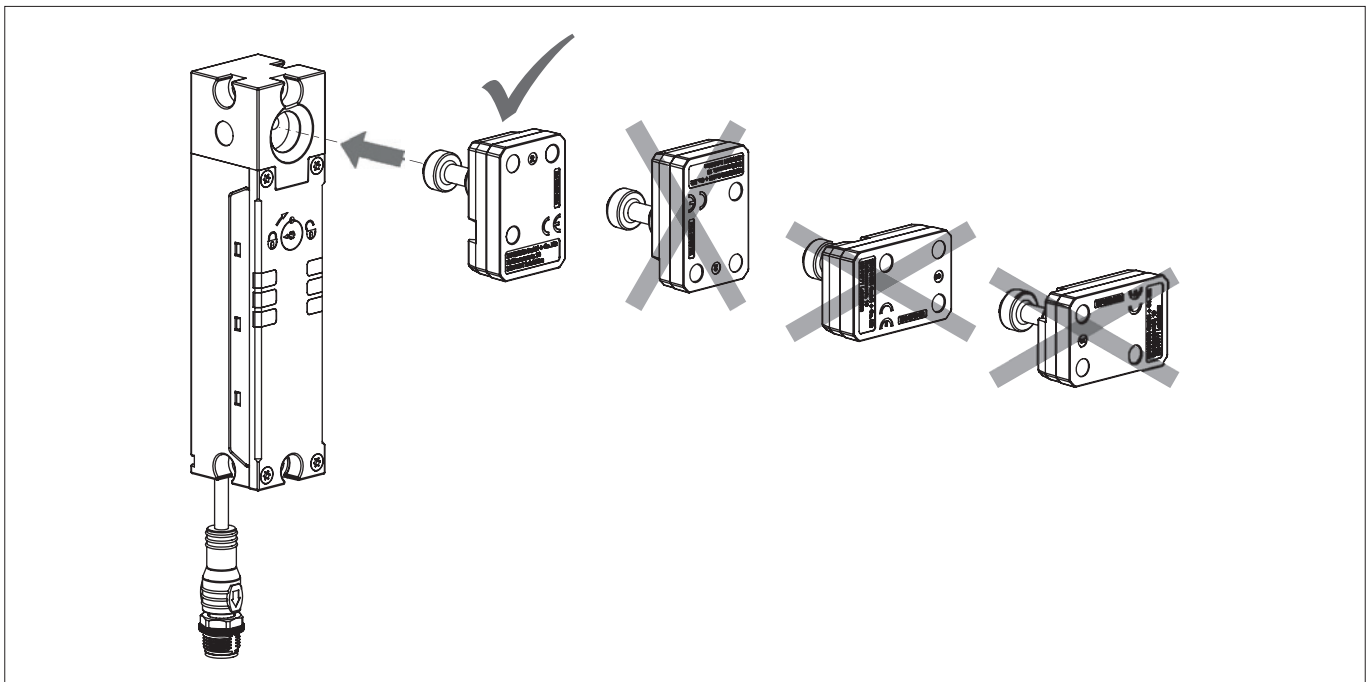

Fig. 2: Actuator alignment
- Actuator and safety switch must be mounted such that the actuator is perpendicularly and completely inserted into the switch when the guard is closed (see Fig. 2). The guard locking function is not assured if installation is incorrect.